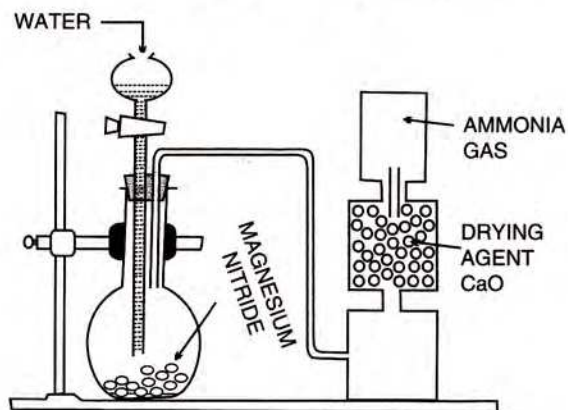

Fig. 9.2 Preparation of ammonia from magnesium nitride
**Procedure :** Magnesium nitride or Aluminium nitride is kept in a round bottomed flask fitted with a thistle funnel and a delivery tube, as shown in Fig 9.2. Warm water is added very slowly.